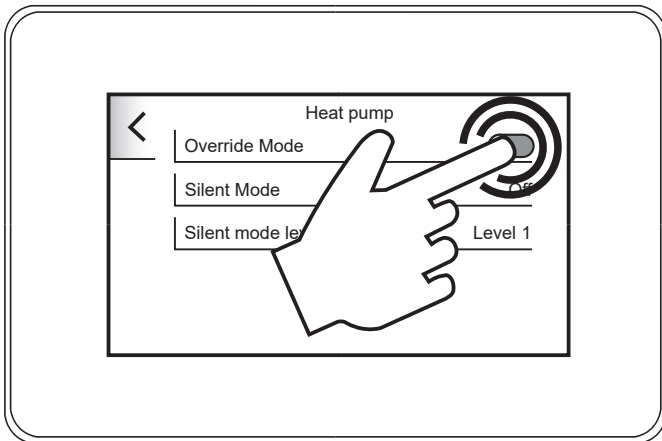

Figure 6-3: Override Mode
2. Tap the toggle icon to enable 'Override mode'. Refer to Figure 6-3.